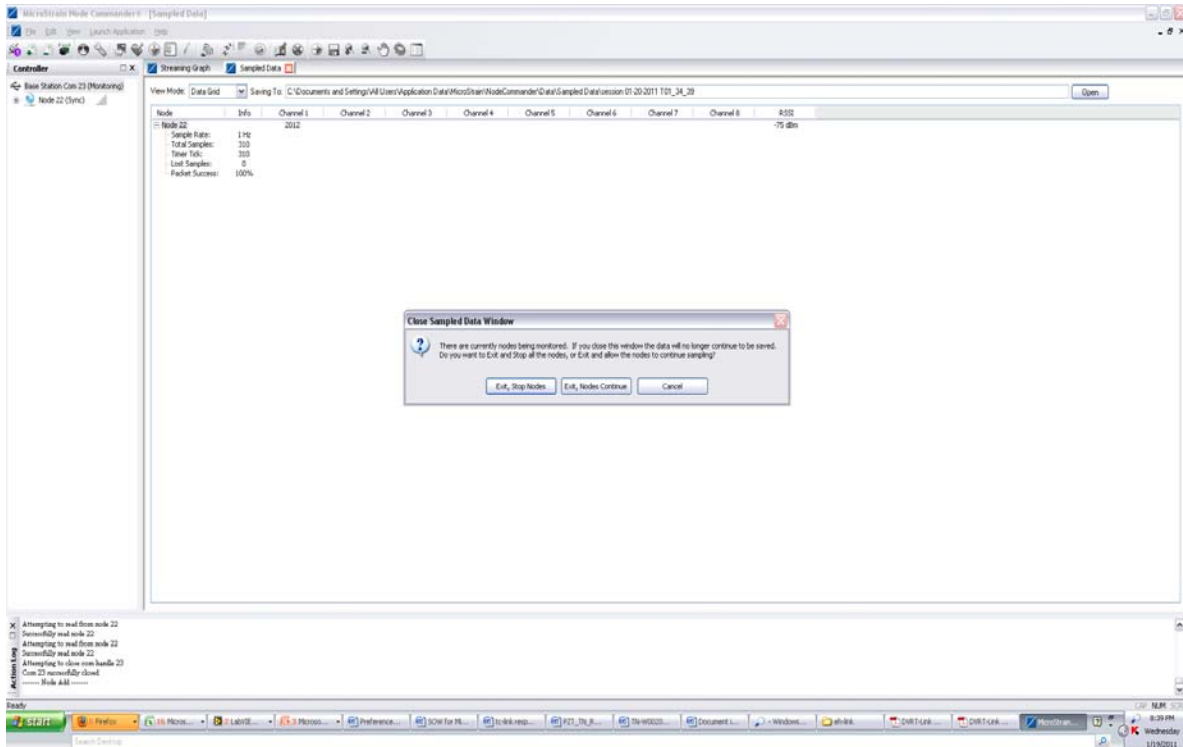

**Figure 8. Installing Tester Board w/ Configuration Switch**
Configuring the EH-Link sampling parameters requires writing two appropriate configuration eeprom registers: eeprom register 14 programs the sample rate, and eeprom register 40 programs the buffer size. By default, the EH\_Link ships to transmit a single sample at 1 Hz (Register 14 = 12, Register 40 = 1). To change the configuration, we need to use a 9 Volt battery to temporarily provide power to the EH-Link during configuration. In addition, a tester board is included that simulates a Wheatstone bridge and includes a switch that places the unit into configuration mode (See Figure 8).
- First connect the tester board as shown in figure 8, below.
- Ensure the 9V battery is connected to P2 pins 9(+) & 10(-) as shown in figure 8, this may require temporary removal of the storage capacitor.
- Set the configure/operate toggle switch to the **run** position (Figure 8)
- Set the configure/operate toggle switch to the **configure** position (Figure 8).